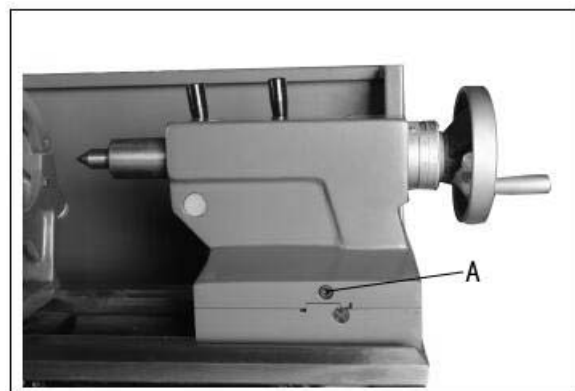

Figure 29
3. If tailstock adjustment is needed, alternately loosen and tighten front and rear hex socket cap screws (A, Fig. 29).